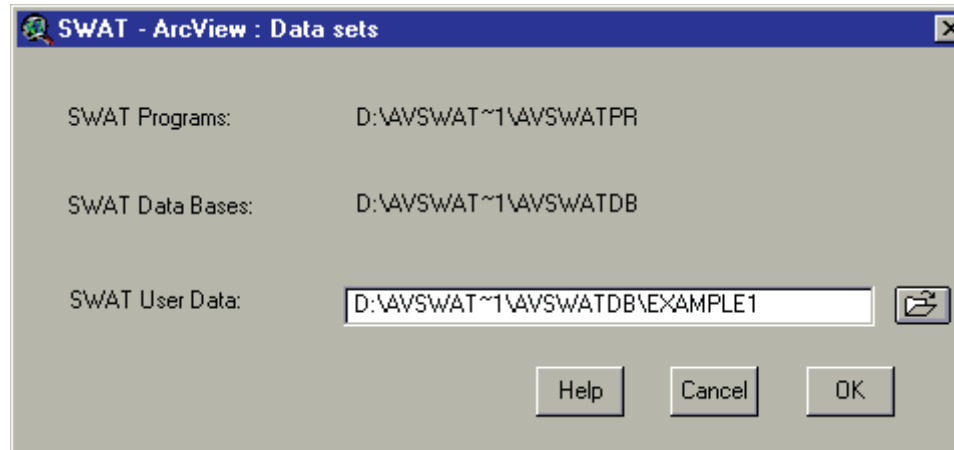

Figure 15.7
10. The **SWAT User Data** directory in the prompt box will show the directory chosen with the browser (Figure 15.7).